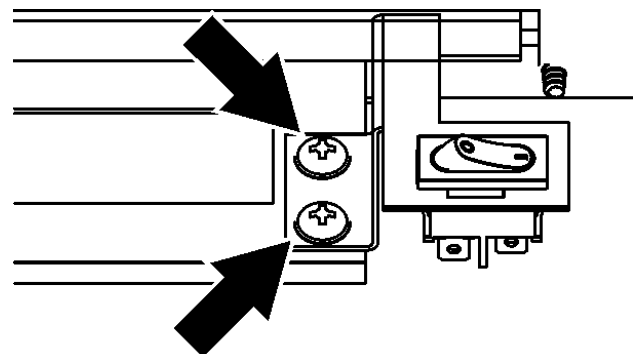

Figure 36. On/Off switch removal
9. Remove the two screws that hold the On/Off switch bracket to the front of the gas valve bracket (See figure 36).